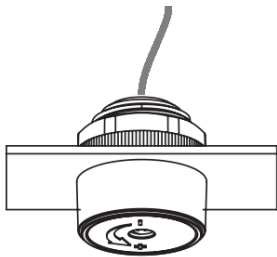

Fig. 1
- For panel-mounted installation, drill an 18mm diameter hole in the mounting surface, remove the mounting bracket and locking, insert the product through the hole and secure with the locking provided (see Fig. 1)